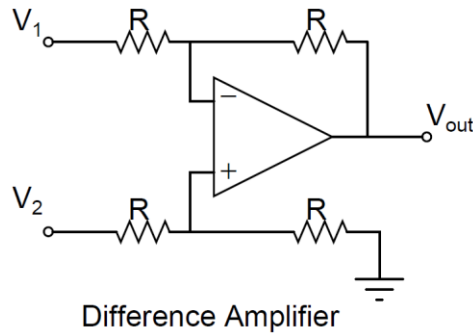

Figure 1. Classic difference amplifier Notice that the "bottom" side has V_2 connected to ground through 2 resistors. Power connections are not shown.
1. Figure 1 shows an op-amp configured as a **difference amplifier**. It is called a difference amplifier because it computes the difference between the two inputs, V_1 and V_2 . Show that: